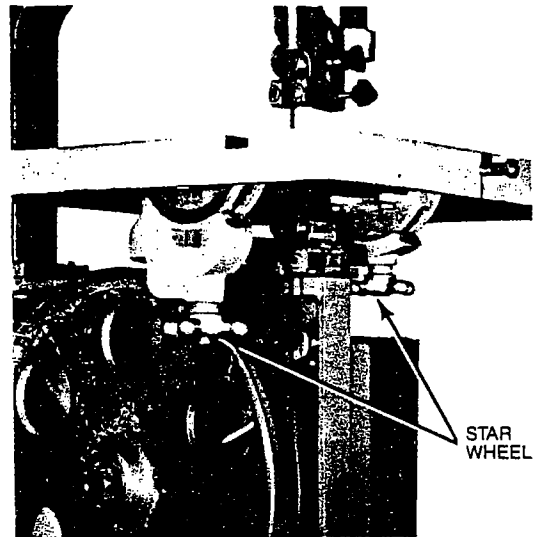

FIGURE 14
1. Loosen both star wheels (Figure 14) under table.